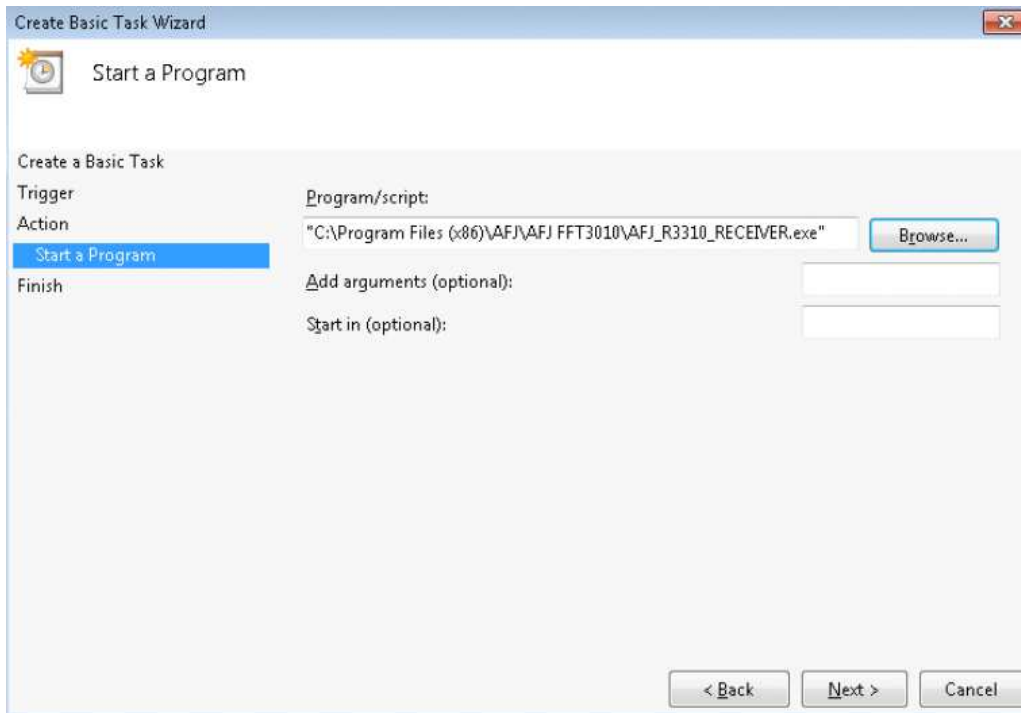

Fig. C.41: Selection of the required application
STEP 8 – In *Create Basic Task Wizard* window after the selection of the required application please click *Next* (Fig. C.41).